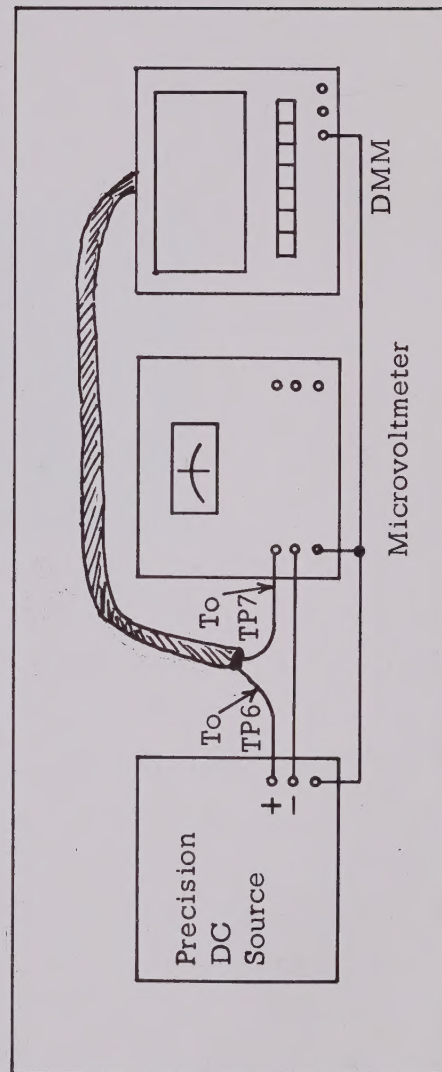

Figure 3. Test Setup - Reference Voltage
- (b) As shown in figure 3, connect the positive side of the voltage source to the cathode side of CR5 (point e) and the positive input of the microvoltmeter to TP7. CAUTION: Avoid shorting cathode of CR5 to adjacent straps.